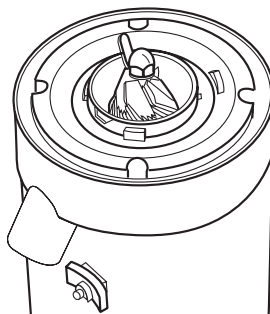

Figure 13
6. Clean the bottom burr using the burr cleaning brush, see Figure 13.